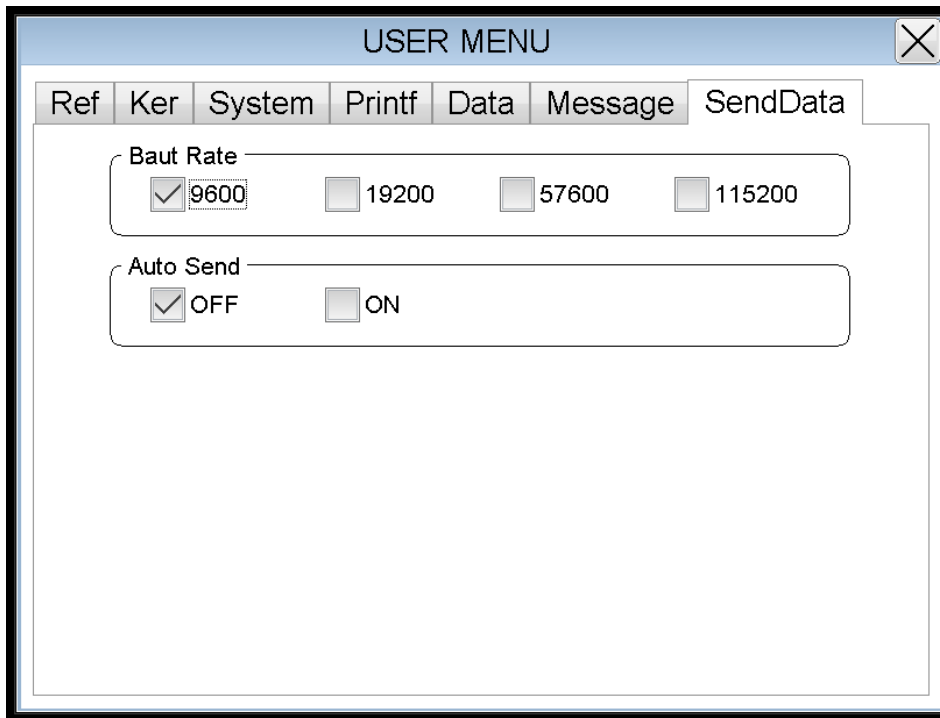

Figure19
8.1.7 Data transfer setting (Figure19)